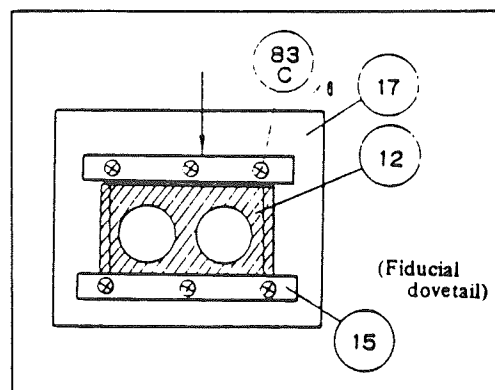

Fig. 26
Insert the male dovetail of prism holder (12) into the fiducial one (has not been disassembled) of (15), and move (15) parallel in the direction of the arrow, as shown in Fig. 26. In this case, keep the slack within about 0.01mm.
- 4) Apply oil G7920 to the sliding surface for dovetail fitting. Check for smooth sliding, and for slow dropping of (17) by itself, when holding (12) with the hand.